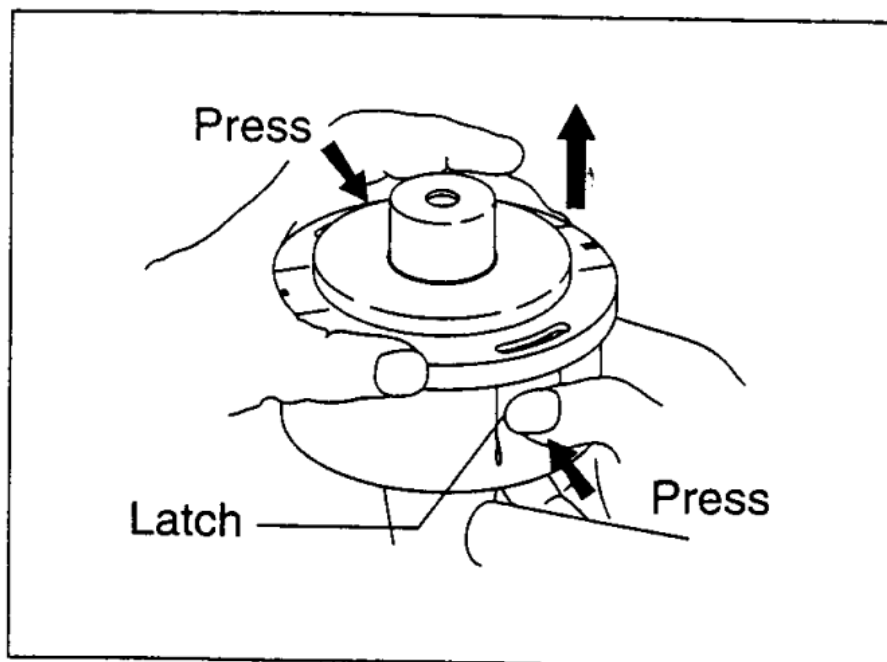

Fig. 23
1. Press the housing latches inward to lift off the cover; then remove the spool (Fig. 23).